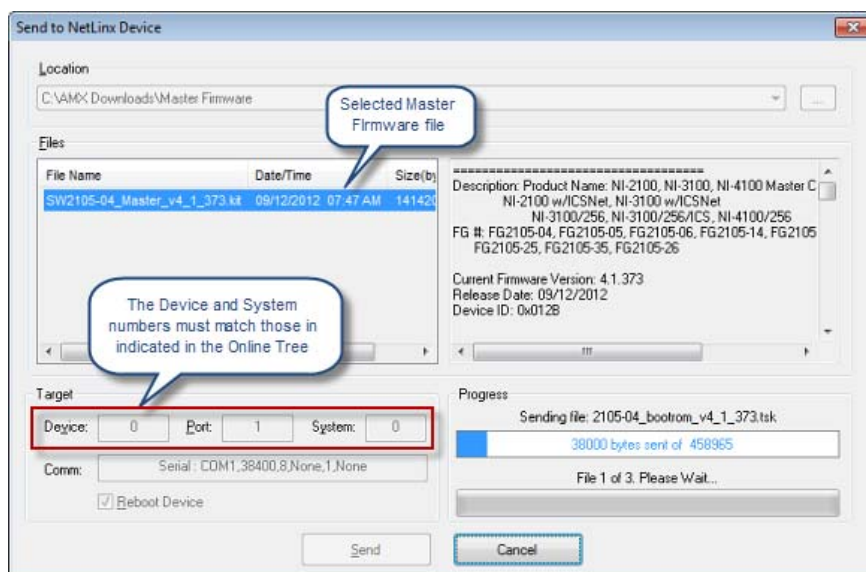

FIG. 29 Send to NetLinX Device dialog (showing on-board NI_Master firmware update)
- Note that the *Port* field is disabled (FIG. 29).